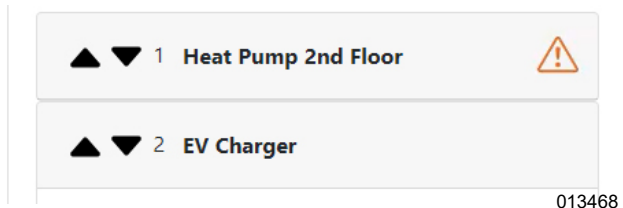

Figure 4-9. Minimum off Time Warning Icon
- If the homeowner attempts to restart load too soon, the app will inform it is pending and display a warning icon. See Figure 4-9. The load will start after the delay time expires.